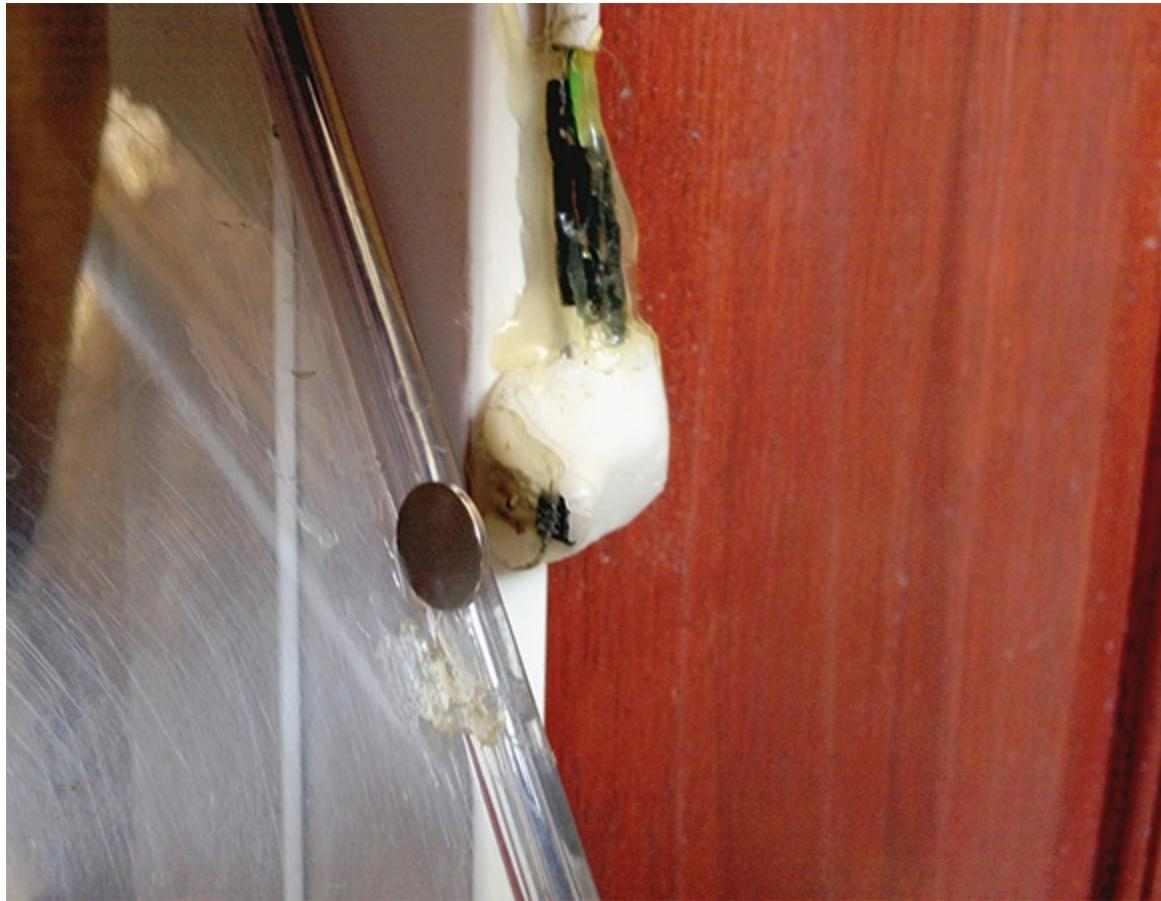

Figure 11-10: Mounting your sensors and magnets.
3. Glue the plastic block to the pet door frame, as in Figure 11-10.
Swing the door partway until it is in front of one of the sensors. Make sure that the south facing pole that you marked earlier points toward the sensors. Use a dab of glue to attach the magnet to the door. When you're done, it should look like Figure 11-10.